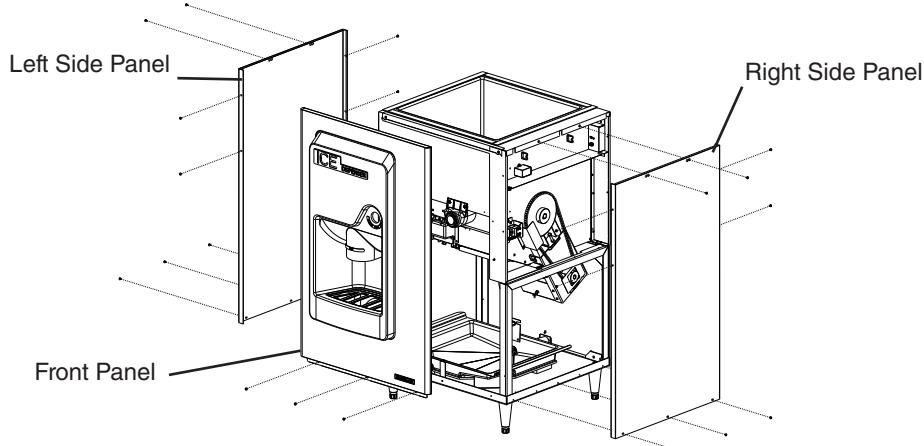

Fig. 1
- 3) Remove the dispenser front panel. Depending on which side the water valve is to be mounted, remove the left or right side panels. See Fig. 1.